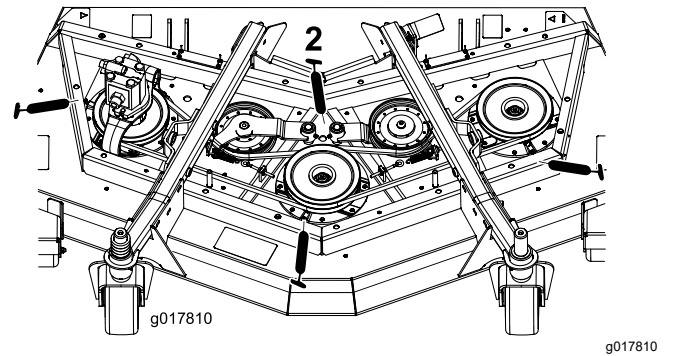

Figure 45
- 3 spindle-shaft bearings—located under the pulley (Figure 45)
- 2 idler-arm-pivot bushings (Figure 45)